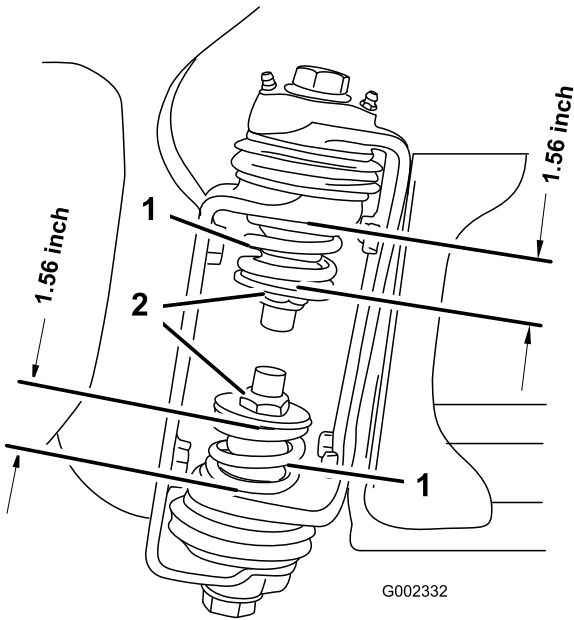

Figure 3
3. At the boom hinge, measure the compression of the upper and lower springs while the booms are in the extended position (Figure 3).